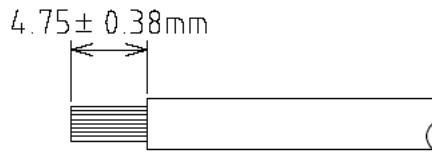

FIGURE 2-27
- a. Refer to **Figure 2-27**. Strip approximately $4.75 \pm 0.38\text{mm}$ of insulation by using the appropriate wire stripping tool for a 1.5mm² wire.